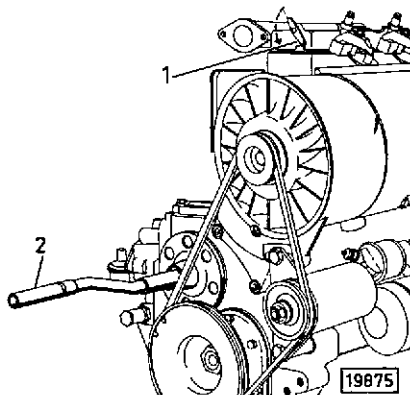

Fig 9
4. Move decompression lever 1 (Fig. 9) up to stop position in the arrowed direction.
5. Now turn starting handle 2 (Fig. 9) briskly until after about six turns the decompression is shut off automatically and the engine starts firing.